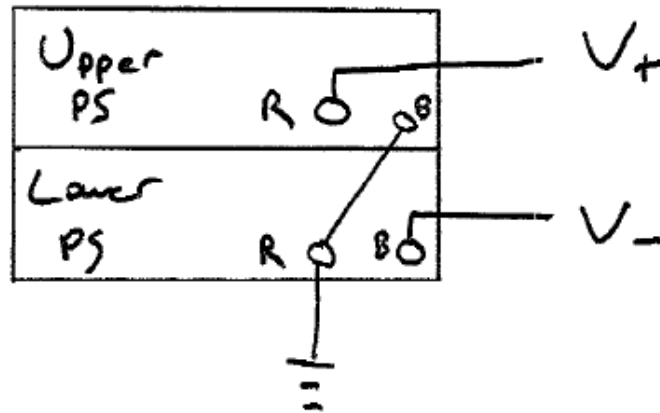

Figure 5: Two powersupplies ganged together to provide a postive and negative supply voltage.
You are now ready to connect your thermoelectric (TE) device! The TE device requires more current than your protoboard or Arduino can supply, so each lab setup includes two 3 A power supplies. These supplies are ganged together (see Fig. 5) with the positive output of LOWER supply connected to the negative output of the UPPER, and to the ground of your proto-board. With this arrangement, the positive (red) output of UPPER supply provides a POSITIVE voltage relative to ground, while the negative (black) output of the LOWER supply provides a NEGATIVE voltage relative to ground.